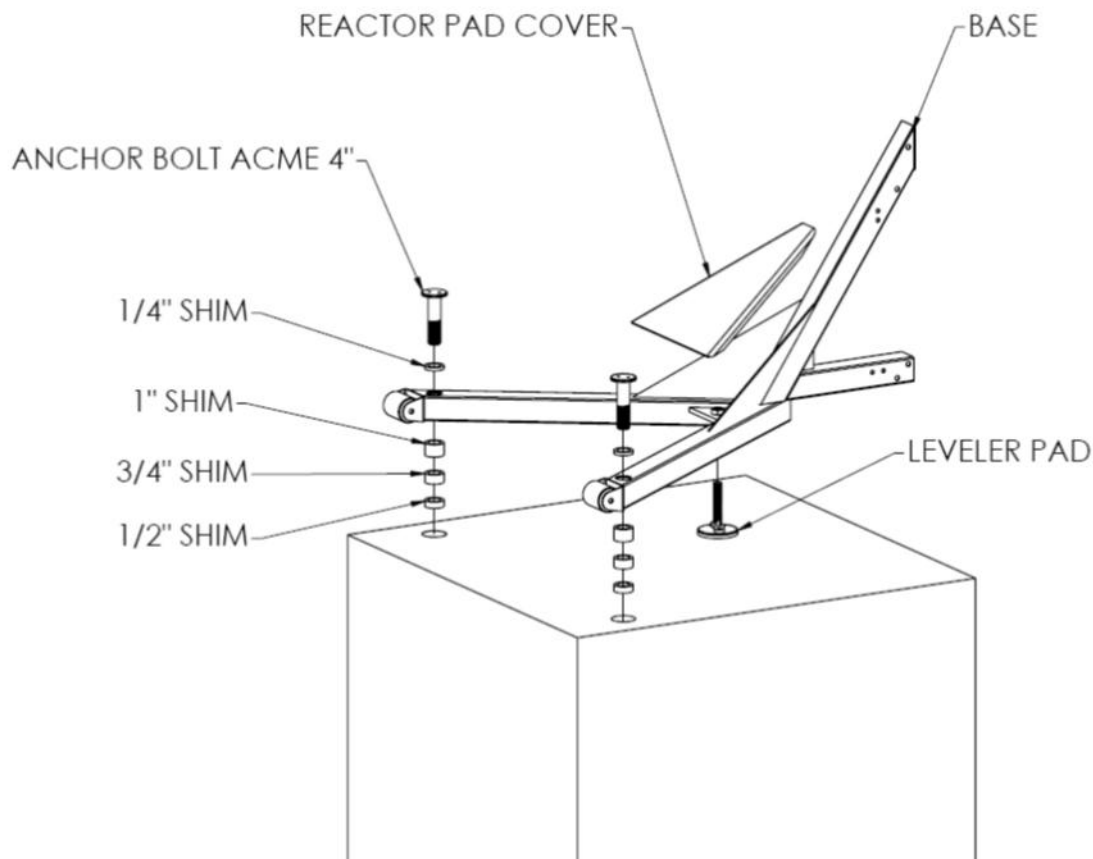

Figure 4
2. Use a 1-1/2" diameter concrete core drill to drill out the anchor holes to a depth of 2-3/16" as shown in Figure 4. Clean all of the debris from the holes. Check to see that the bottom of each hole is in solid concrete. The anchors will only hold if the surrounding concrete is solid. The top of the anchor should be 1/4" below the deck surface. The anchors can be installed deeper, if necessary, to mount to sufficiently solid concrete.
5. Screw the Leveler Pad into the Base assembly as shown in Figure 4, flush with the bottom of the Base stand until further adjustment.
6. Bolt the lift to the anchors in the deck using two 1" by 4" acme bolts as shown in Figure 4. Do not completely tighten the 1" diameter acme bolts at this time.
10. Level the lift front to back, if necessary, by using donut shims between the base stand and each anchor, and adjusting the Leveler Pad by screwing the Pad in or out. The donut shims can be used individually or in combination to level the lift. The donut shims can be used above the anchor base or below as shown in Figure 4 to prevent the acme bolts from bottoming out in the anchors.
12. Install Cover on lift as shown in Figure 4.